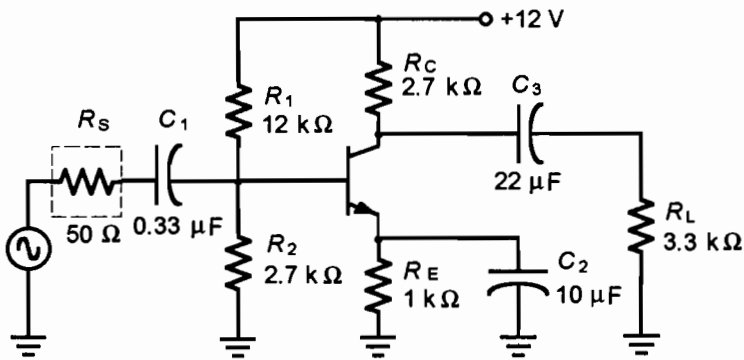

Figure 40.1
1. Build the circuit as shown in Figure 40.1. Connect the DC power supply set to +12 V to your circuit.